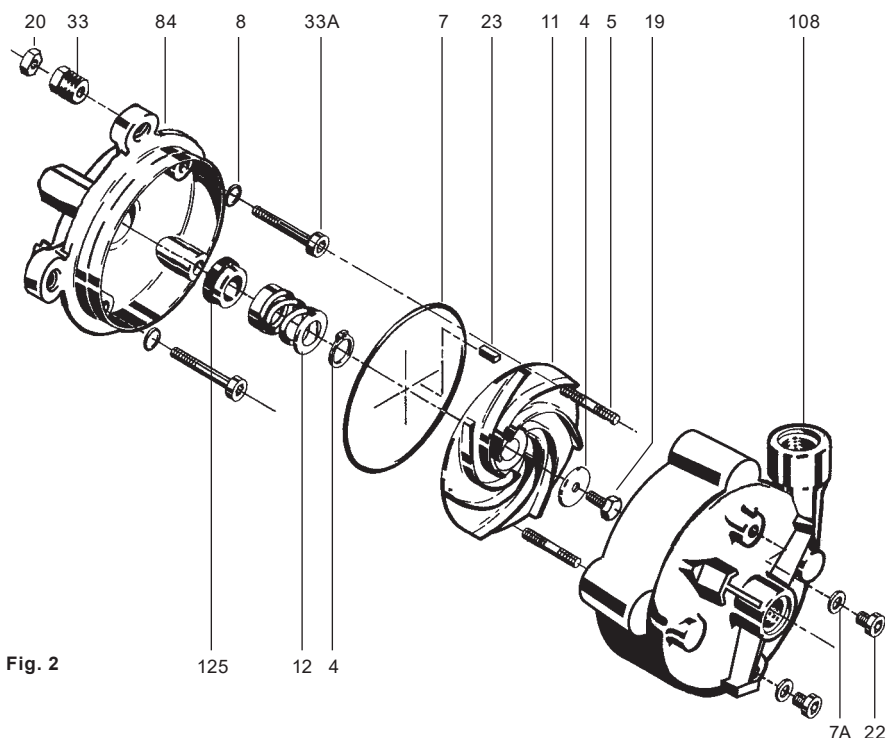

Fig. 2
The disassembly and reassembly procedures are broken into two sections. An exploded view of the unit, Figure 2, is provided for referencing the numbers in the following procedures, i.e. (84), motor bracket.